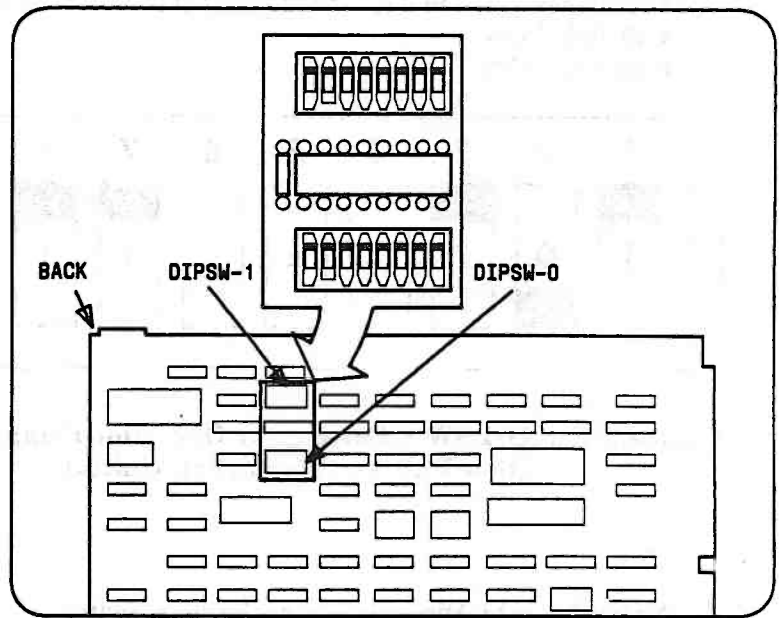

Figure 3-30. Locating DIPSW-1 on the Motherboard
3. Locate DIPSW-1 on the Motherboard (Figure 3-30).